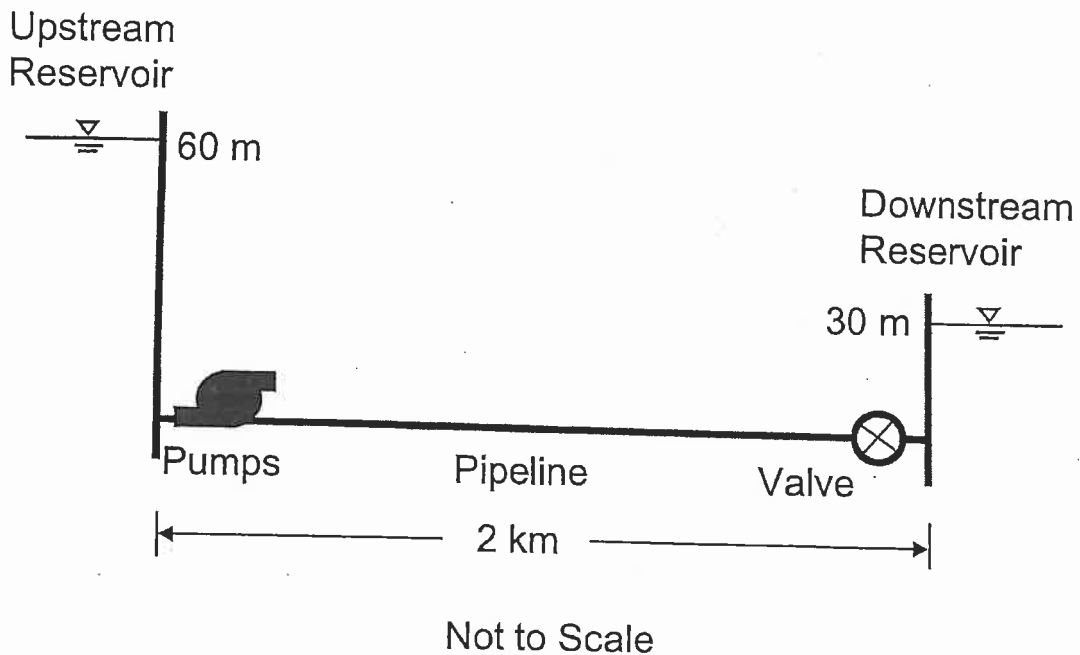

Figure 2. Pipeline system with pumps and downstream valve.
2. A pump forces water through a 2 km long pipeline in Figure 2. Water is conveyed from an upstream reservoir (water level of 60 m) to a downstream